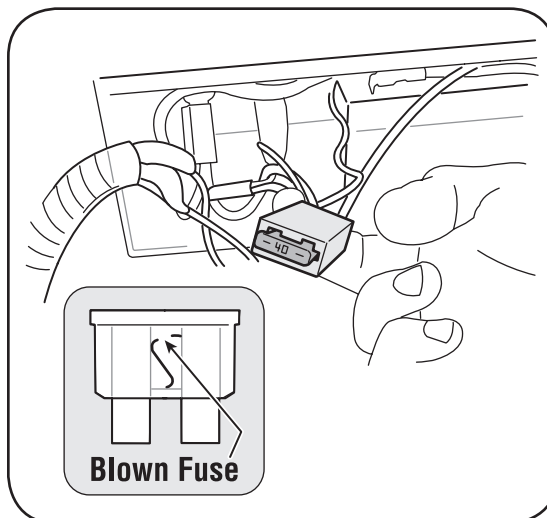

Figure 5-9
2. Remove fuse from socket and inspect as shown in Figure 5-9. If it is burned out, replace with standard automotive 40 ampere fuse.